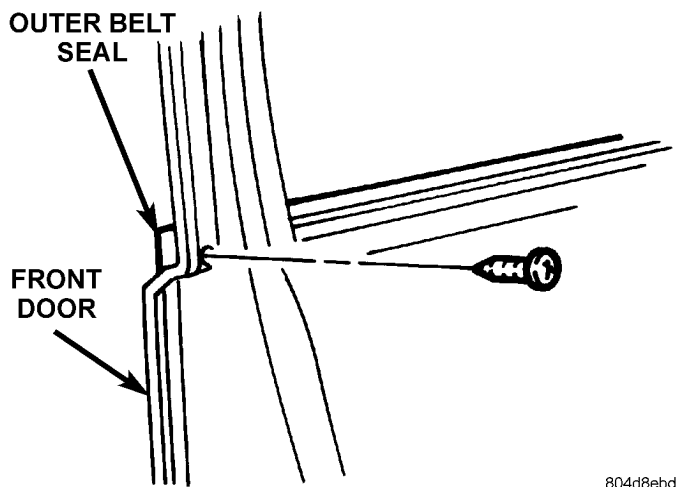

Fig. 23 Front Door Outer Belt Seal
- (1) Lower window glass.
- (2) Remove screw from inner door panel attaching seal to outer door panel (Fig. 23).